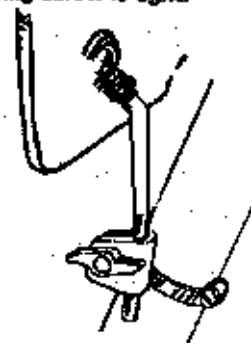

Figure 6.
12. Place wrap-around clamp on lower rod and pinch tight. Push, and thread wind screw through wrap around clamp and then insert and tighten into fork boss. Figure 6.